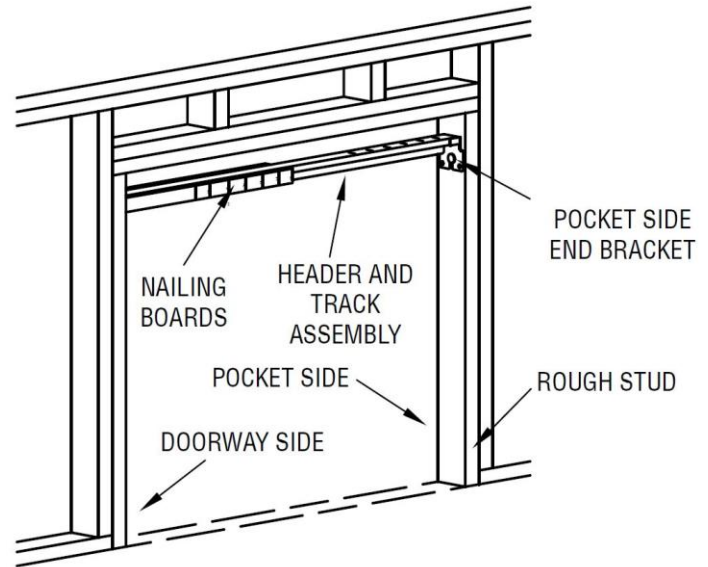

Figure 6
- Slide each end bracket's slot in the fastener heads. Make sure to use the pocket end bracket for the pocket side rough stud and doorway end bracket for the doorway side rough stud. See Figure 6.
- Screw the header and track assembly to the attached end brackets with the #8 x 5/8" Pan Phillips Head Wood Screws. Make sure the pocket end bracket is the one attached to the pocket end of the header and track assembly. See Figure 6.